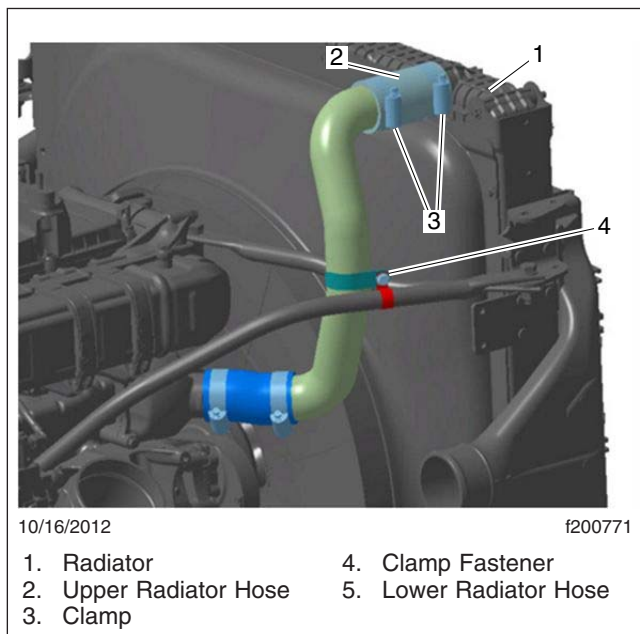

Fig. 4, Upper Radiator Hose Installation, DDC Engine
6. Remove the upper radiator hose. See Fig. 4 for DDC engines, or Fig. 18 for Cummins engines.
34. Install the new upper radiator hose. See **Fig. 4** for DDC engines or **Fig. 18** for Cummins engines.